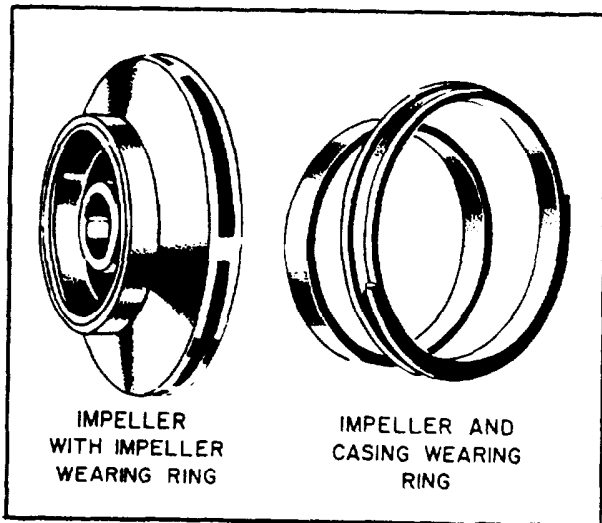

Figure 7-7.—Impeller, impeller wearing ring, and casing wearing ring for a centrifugal pump.
**Renewing Wearing Rings.**—The clearance between the impeller and the casing wearing ring (fig. 7-7) must be maintained as directed by the manufacturer. When clearances exceed the specified amount, the casing wearing ring must be replaced. On most ships, this job can be done by the ship's force, but it requires the complete disassembly of the pump. All